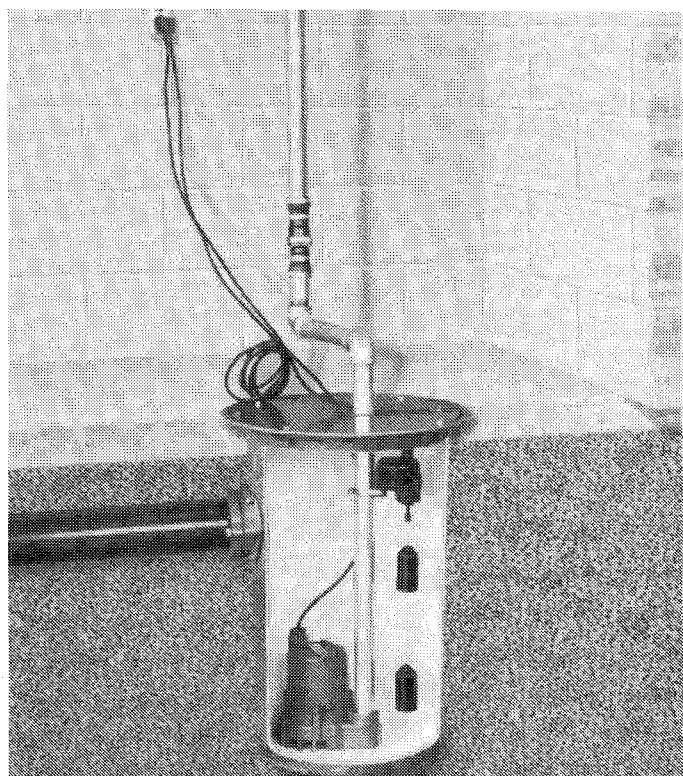
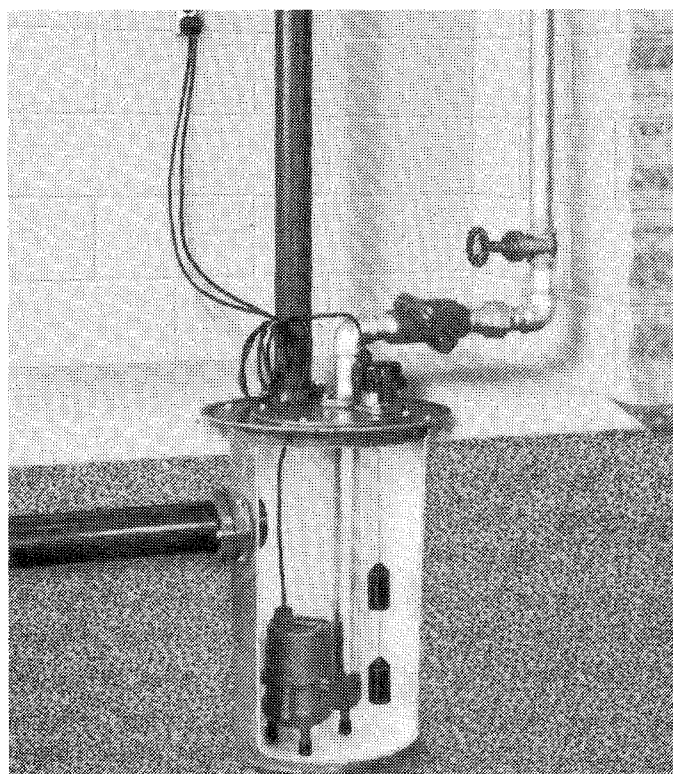

FIG. 3
FIG. 4
MOUNTING—Switch can be mounted on the discharge pipe under the cover as shown in Fig 3 or can be mounted through flange on pump cover for sewage pump application as shown in Fig 4.
When switch is mounted on discharge pipe Fig 3, the switch must be positioned so that weights hang free without touching pump and are opposite inlet pipe as shown.
When switch is mounted through cover Fig 4, cable must be pre-cut and weights set on cable before installing.
In either type installation, Fig 3 & Fig 4, be sure all excess pump and control cord is taken above basin and is coiled and taped as shown Fig 3 & Fig 4. Do not leave excess cable in basin as it may tangle with weights and cause switch to malfunction.
Where switch is installed through flange Fig 4, be sure sealing "O" ring is in place in flange so that switch body will seal when pushed into flange. When metal flange is supplied, adjust set screw in flange so that switch will be held in place.
6. Be sure excess pump and control cord is coiled and taped above sump cover. See Fig 3 & Fig 4.